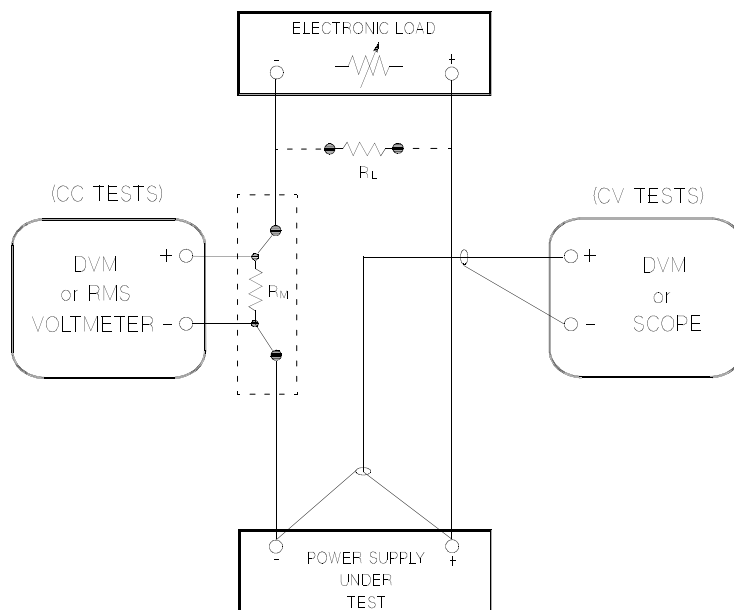

Figure 3-1. Performance Verification Test Setup
To eliminate output current measurement error caused by the voltage drops in the leads and connections, connect the current monitoring resistor between the (-) output terminal and the load as a four-terminal device. Connect the current-monitoring leads inside the load-lead connections directly at the monitoring points on the resistor element (see  $R_M$  in Figure 3-1).
- 1 Turn off the power supply and connect a digital voltmeter between the (+) and (-) terminals of the output to be tested as shown in Figure 3-1.
- 4 Operate the electronic load in open mode (input off). Record the output voltage reading on the digital voltmeter again. The difference between the digital voltmeter readings in steps (3) and (4) is the CV load regulation. The difference of the readings should be within the limit of 5mV.
- 6 Adjust the autotransformer to high line voltage (127 Vac for nominal 115 Vac, 110 Vac for nominal 100 Vac, or 253 Vac for nominal 230 Vac). Record the voltage reading on the digital voltmeter. The difference between the digital voltmeter readings in steps (5) and (6) is the CV line regulation. The difference of the readings should be within the limit of 5mV.
- 1 Turn off the power supply and connect the output to be tested as shown in Figure 3-1 to an oscilloscope (ac coupled) between (+) and (-) terminals. Set the oscilloscope to AC mode and bandwidth limit to 20 MHz. Connect a resistive load (7.5 $\Omega$ ) as shown in Figure 3-1.
- 1 Turn off the power supply and connect the output to be tested as shown in Figure 3-1 with an oscilloscope. Operate the electronic load in constant current mode.